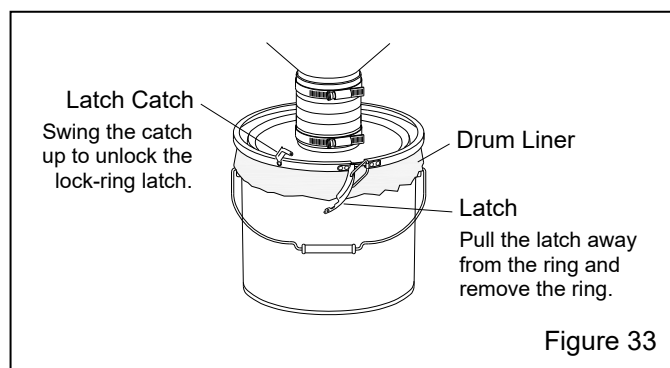

Figure 33
## 7.8 Replacing Filter Cartridges –Figures 33 and 34
**7.8.3** Refer to Figure 33 and unlatch the dust container lid, pry off the lid from the container (the lid's flexible inlet hose allows easy removal), and remove the container.